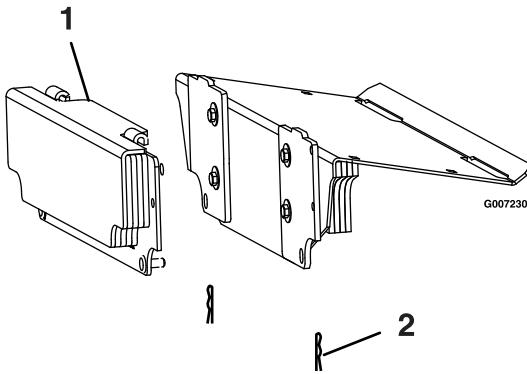

Figure 8
12. Hook weight plate assembly over the top of the weight mounting plates and secure with two hairpins as shown in Figure 8.